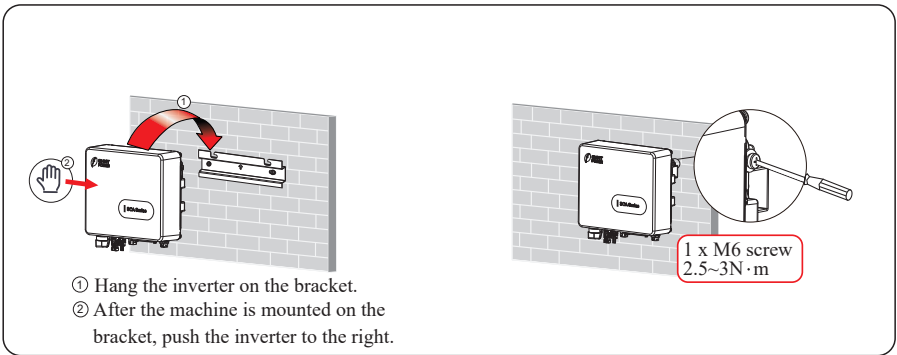

Figure 4.14 Securing the inverter
**Step 2** Mount the inverter on the mounting bracket and keep them aligned with each other, as shown in Figure 4.14.
**Step 3** Tighten the hexagon screw at the right side of the inverter to a torque of  $2.5\sim 3\text{N}\cdot\text{m}$ . Screw specs for 3K-3.6K is M6, as shown in Figure 4.14.